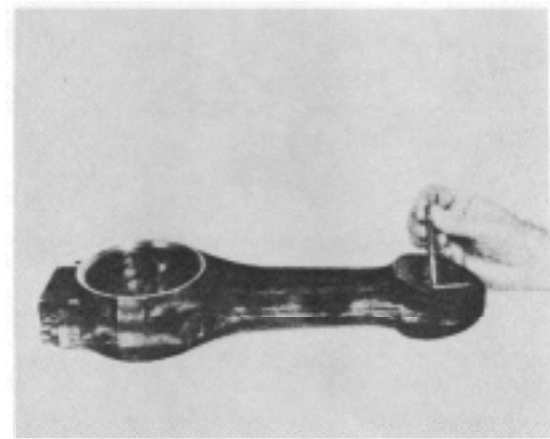

Figure 16C-33. Miking the Piston Pin Bushing
4. Bore the bushing to 2.401 to 2.4015 inch (60.98 to 60.993 mm) inside diameter. Remove the rod from the ST-526 and measure with the dial bore gauge, Figure 16C-33.